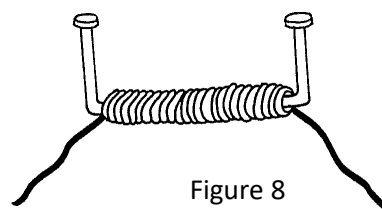

Figure 8
- ✎ Wind about 400 turns of wire around the center. Leave 4 inches of spare wire at a start and finish as shown in *Figure 8*. Remember to wind in the same direction.